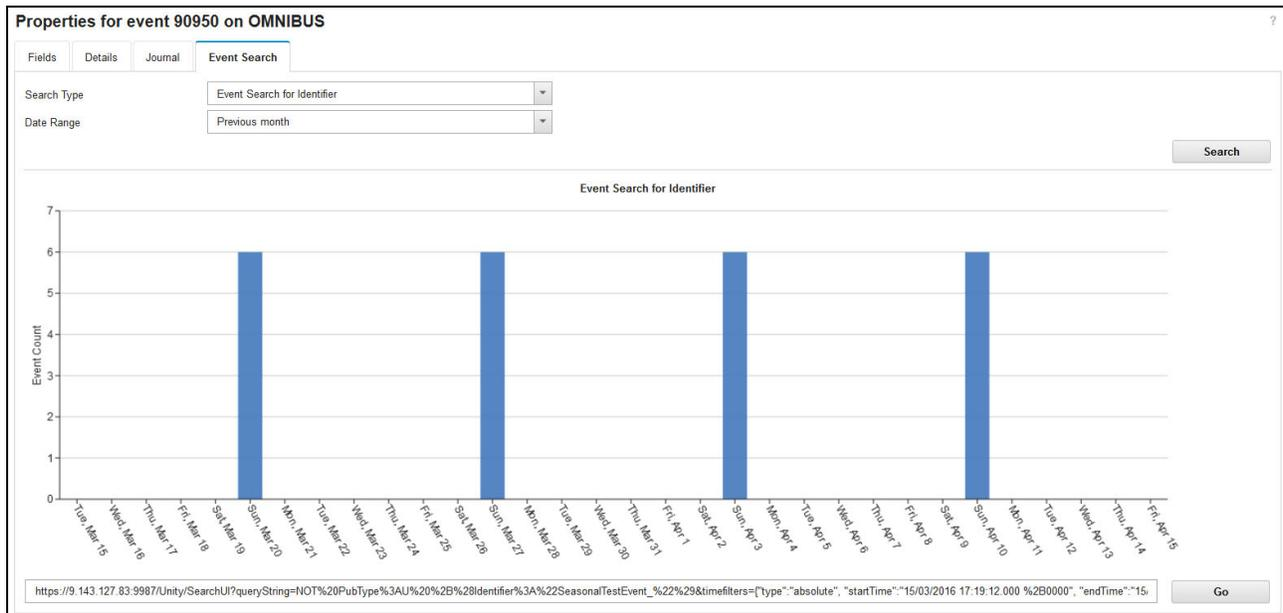

Figure 8-6 Event occurrence in previous week month
- Because these results appear abnormal, Joe want to widen the search to the last month. He chooses the **Date range: Previous month** option and then, clicks **Search**. The previous month view result is shown in Figure 8-6.